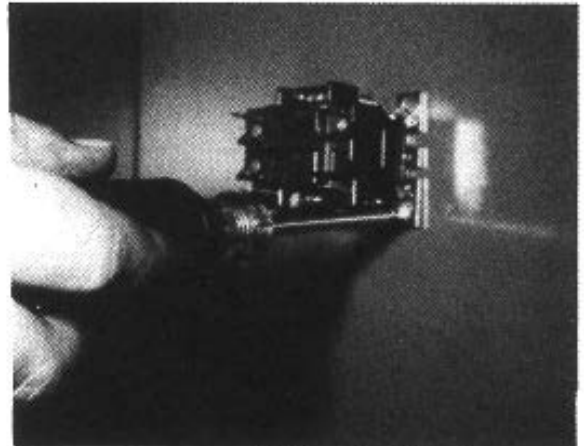

Figure 18: Thermostat Isolation Relay Attachment
- d. Steam Boilers only. Secure the R8222 Thermostat Isolation Relay to upper left corner of jacket vestibule panel with sheet metal screws provided. See Figure 18.